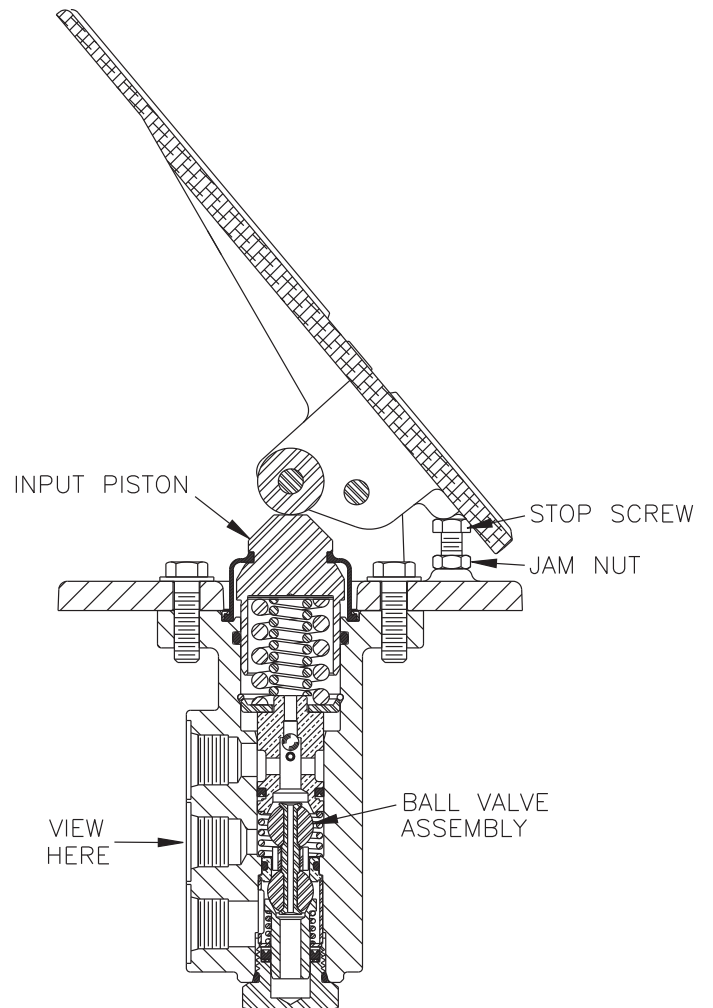

FIGURE 3
If the stop screw or jam nut shown in Figure 3 are loosened or removed, they must be properly reset. Adjust stop screw and nut to allow 1.52 mm (0.060 in) minimum travel of input piston (6) before internal ball valve assembly (18) begins to move. Torque nut 24.4-29.8 N·m (18-22 lb·ft). The correct adjustment can be determined by viewing or feeling the ball valve assembly (18) through the port shown in Figure 3.